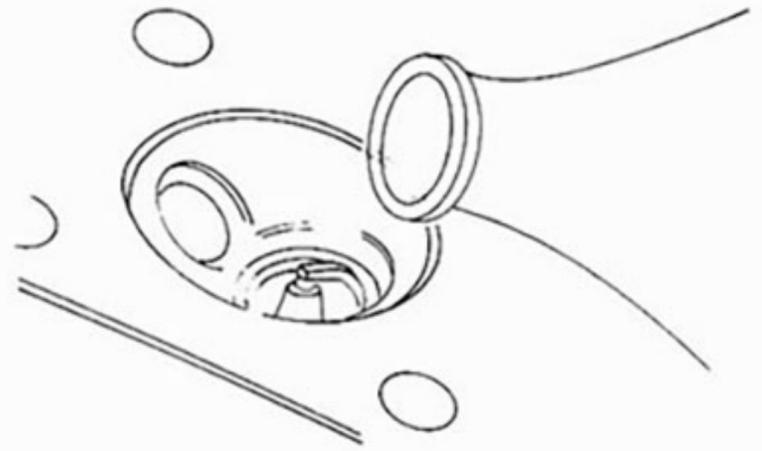

FIGURE 2
- Screw the spark plug on the cylinder head and check the tightness of the compression lifter valve : fill combustion chamber with petrol (Fig. 2).